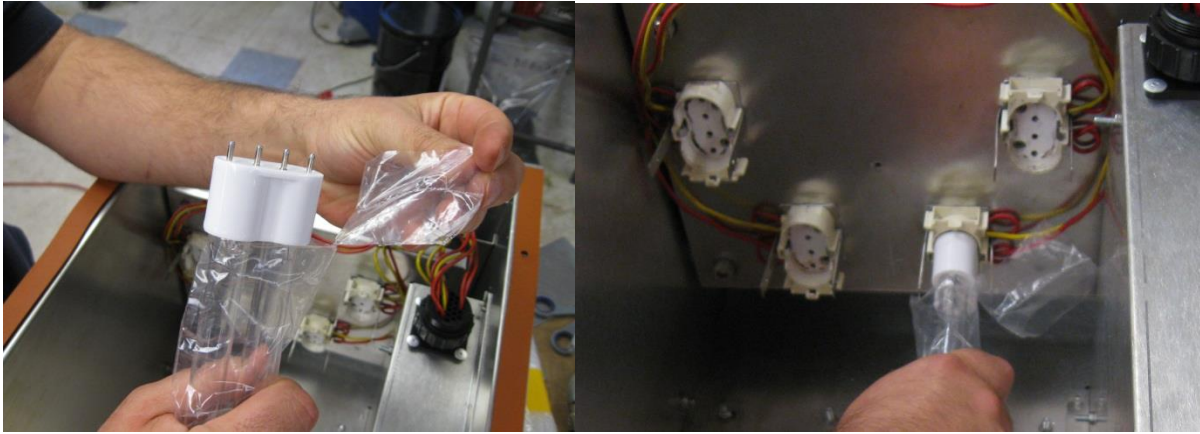

Figure 10: Use Plastic Bags or Latex Gloves to Avoid Transferring Hand Oils to the Bulbs During Installation
- 9) To replace bulbs with the ones provided in the service kit, carefully tear the bag to expose the ceramic post and conductive pins while keeping the glass bulb inside the bag (as shown in Figure 10) to avoid transferring skin oils from hand to bulb. If the bag has torn, the gloves may be used to avoid contact between bulb and skin.